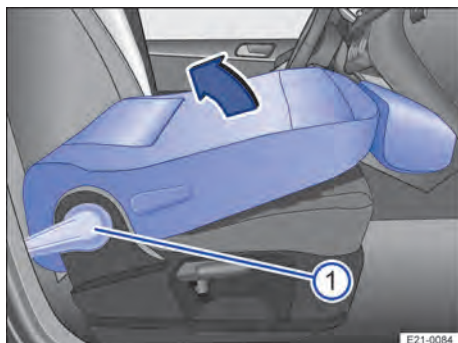

Fig. 61 Front passenger seat: folding the backrest backwards.
2. To fold it back, press the lever → Fig. 61 ⓘ down to release the front passenger seat backrest again.
3. Fold back the front passenger seat backrest in the direction of the arrow → Fig. 61 until it reaches the upright position.